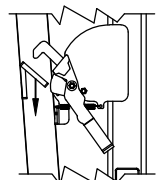

Figure 6: Step 8.
- Step 8. With the other hand, push down on the control toggle switch to lower the platform until it clears the latch slot, approx. 4 inches, (Figure 6). At this point you can let go of the latch handle.